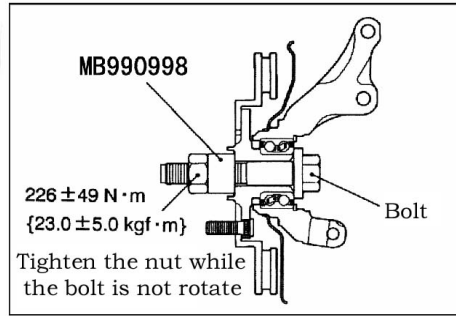

Fig. 16-33
(1) Disc brake assembly installation
- ① In order to measure the brake drag force after pad installation, measure the rotary-sliding resistance of the hub by the following procedure with the pads removed.
- b.Shown as Fig.16-33, attach the special tool to the front hub assembly and tighten it to the specified torque.
- ② Install the caliper support to the knuckle, and then assemble the pad and the clip to the caliper support.